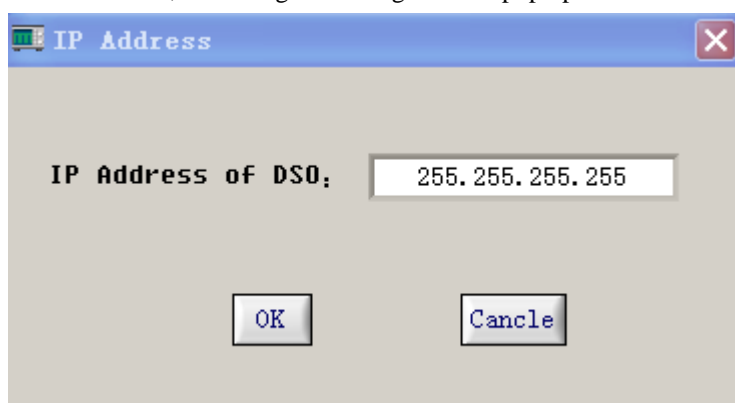

Fig 3-5
2. When “LAN” is selected, the dialog box in Fig 3-5 will pop up.